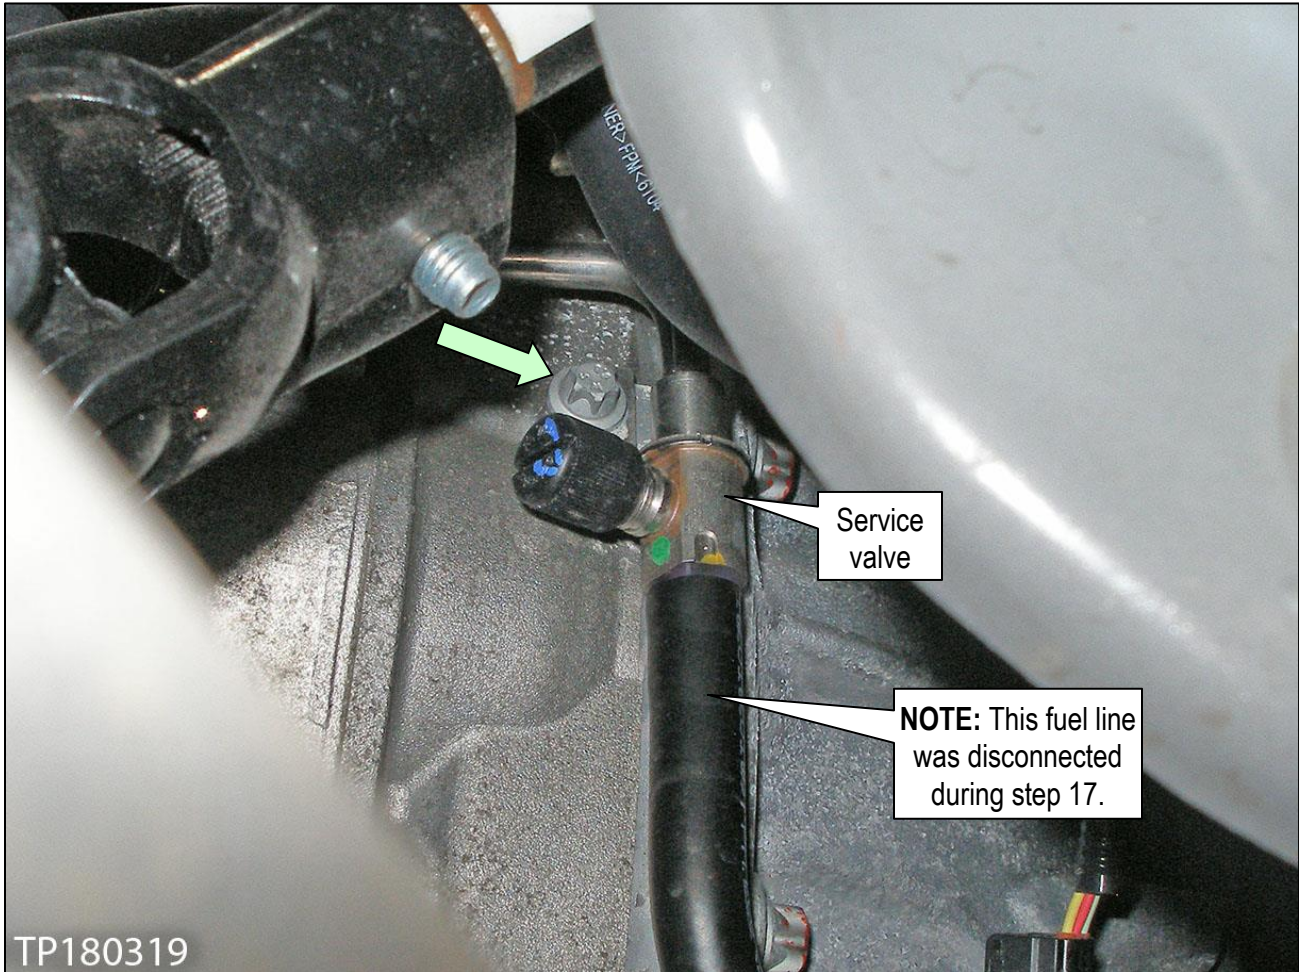

Figure 19
**NOTE:** Figure 19 shows the lower fuel line still connected. It was disconnected previously during step 17.